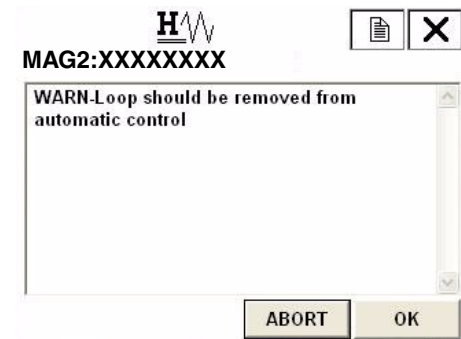

Figure 108.
3. Select the manual zero, then the screen as shown in Figure 108 appears.